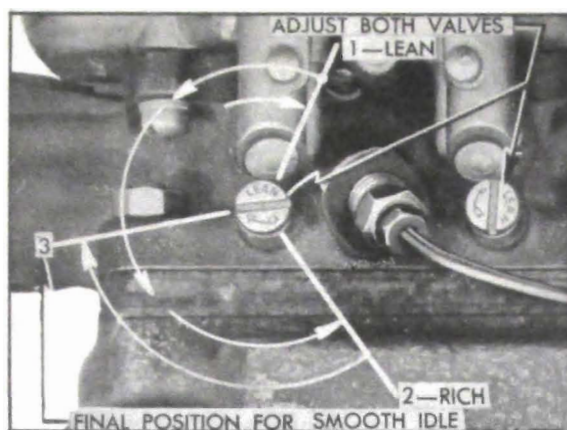

Figure 3-6—Adjustment of Idle Needle Valves
2. With engine at normal operating temperature and idling at 450 RPM, adjust one needle valve at a time (fig. 3-6) to provide smooth idle, as follows: